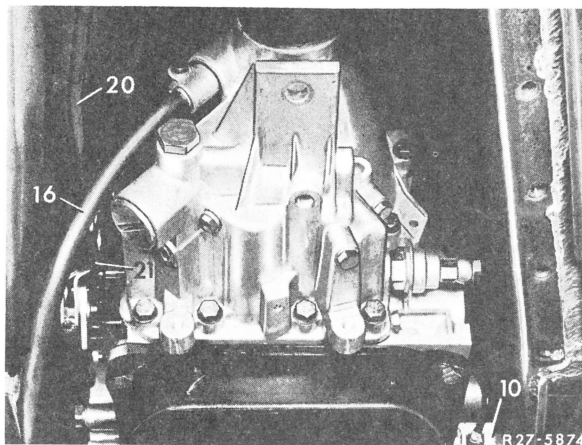

Fig. 8
17 Unscrew cable from kickdown solenoid valve (10) (Fig. 8).
37 Connect tachometer shaft (16) to transmission (Fig. 8).
38 Attach selector rod (20) to range selector lever (21) (Fig. 8).
39 Connect cable to kickdown solenoid valve (10) (Fig. 8).